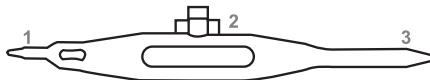
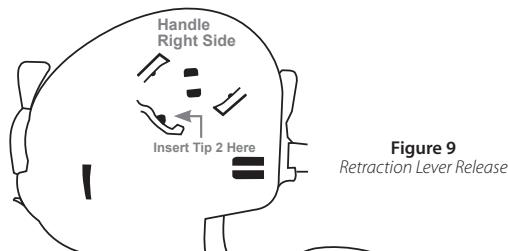
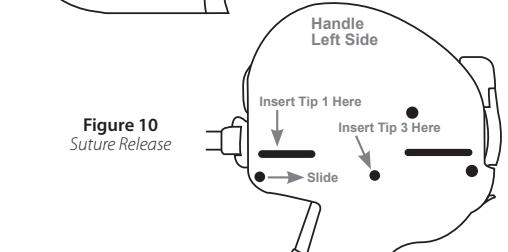

Figure 8
Figure 9
Figure 10
5.1.1 If needle does not retract, insert Tip 2 of Handle Release Tool (**Figure 8**) into hole on right side of case (**Figure 9**). Tip 3 should point towards Retraction Lever. While still inserted, turn and hold Handle Release Tool clockwise with light finger pressure, approximately 5-10 degrees, and gently squeeze the Retraction Lever.
5.2.1 If it is desired to cut the monofilament suture without delivering Urethral End-Piece, Insert Tip 3 of Handle Release Tool (**Figure 8**) into hole on left side of case (**Figure 10**).
5.2.2 If the suture is not fully cut in Step 5.2.1, insert Tip 1 of Handle Release Tool (**Figure 8**) into the groove on the front left side of the case and slide the tool from front to back (**Figure 10**).